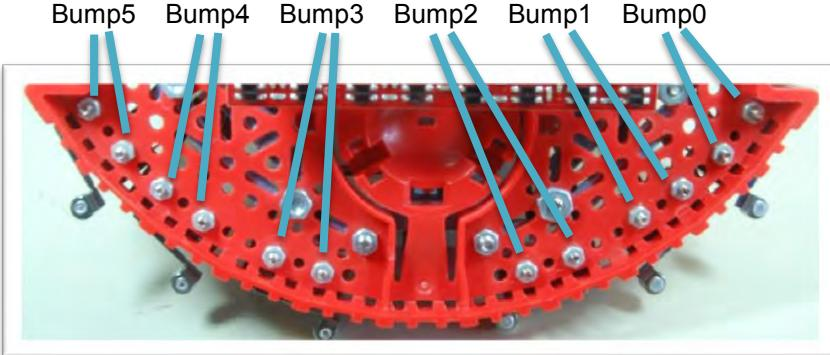

Figure 3. Bump sensors attached to the front of the robot (bottom view).
You interfaced the QTR-8RC line sensor back in Lab 6. You interfaced the bump sensors back in Lab 10. Figure 3 shows one possible placement for six sensors. Figure 4 shows a simple electrical circuit for interfacing the switches.
- Check the wiring as described in Figure 3. Figure 3 shows negative logic and internal pull-up resistors. Because there are no external resistors, you do need to configure the internal resistors in software.